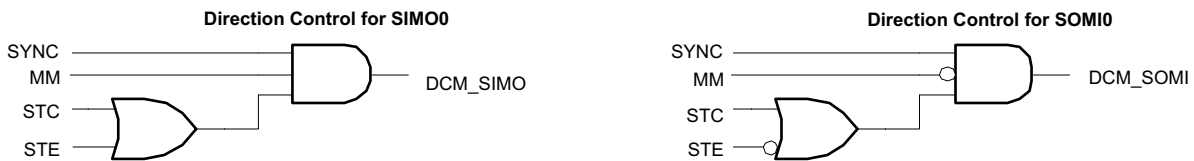

Figure 6-10. Direction Control for SIMO0 and SOMI0
(1) Timer\_A3
(2) USART0 (also see Figure 6-10)